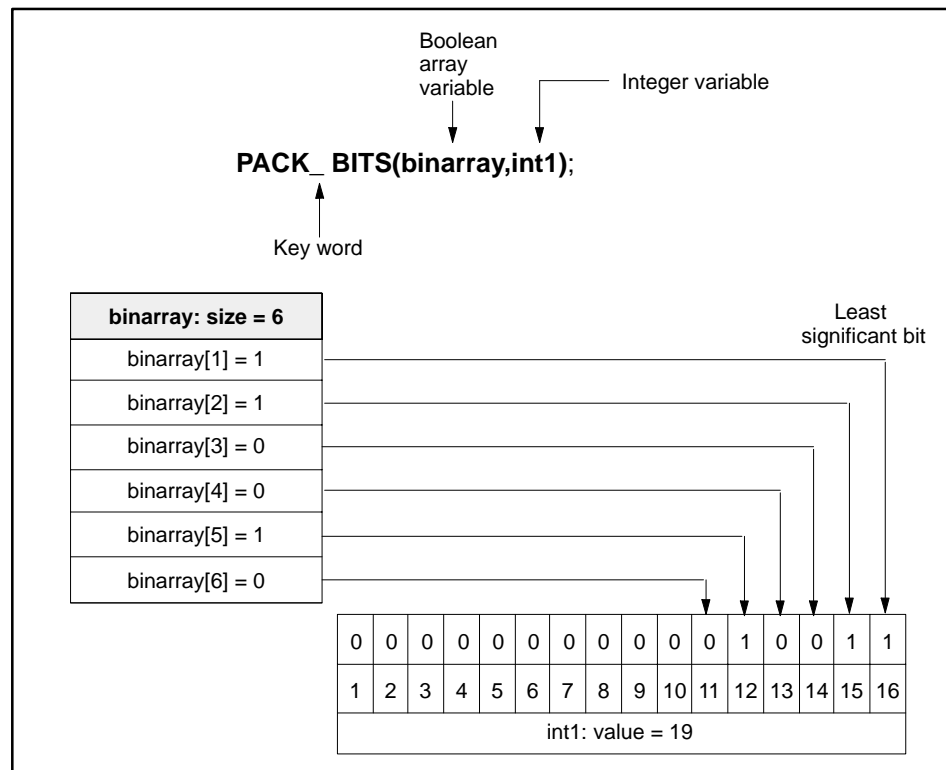

Figure 11-39 PACK_BITS Procedure
- The first variable in parentheses is a boolean array that can contain up to 16 elements. The first element of the array becomes the least significant bit of the integer variable. See the example in Figure 11-39.